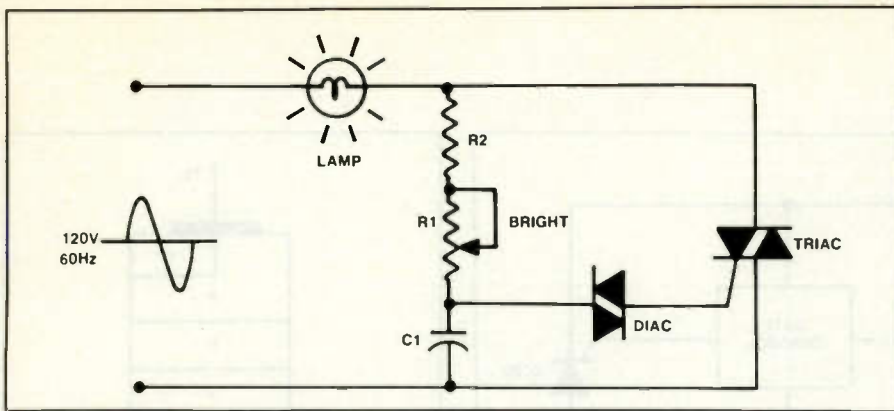
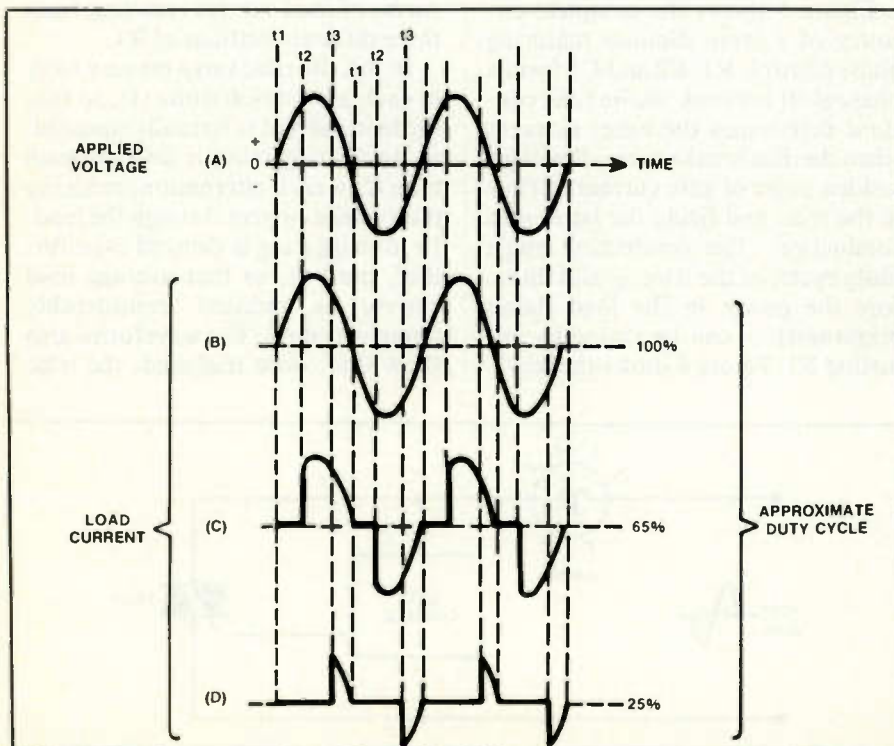

Figure 5.
Figure 6.
Figure 5 shows the complete circuitry of a lamp dimmer featuring phase control. R1, R2 and C1 form a phase shift network whose time constant determines the exact moment when the diac breaks over, allowing a sudden pulse of gate current to flow in the triac and firing the latter into conduction. The conduction angle (duty cycle) of the triac — and therefore the power in the load (lamp brightness) — can be varied by adjusting R1. Figure 6 shows the wave-
As seen in Figures 6(C) and (D), load current can increase very suddenly when the triac switches into conduction, e.g. at times t_2 and t_3 . This rapid rise tends to shock-excite the inductive and capacitive components of the circuit into resonance and generate noise at radio frequencies, particularly in the AM broadcast band. This radio frequency interference (RFI) can be radiated and picked up directly by nearby radios, or carried through the power line to radios, TV sets, computers, etc. The